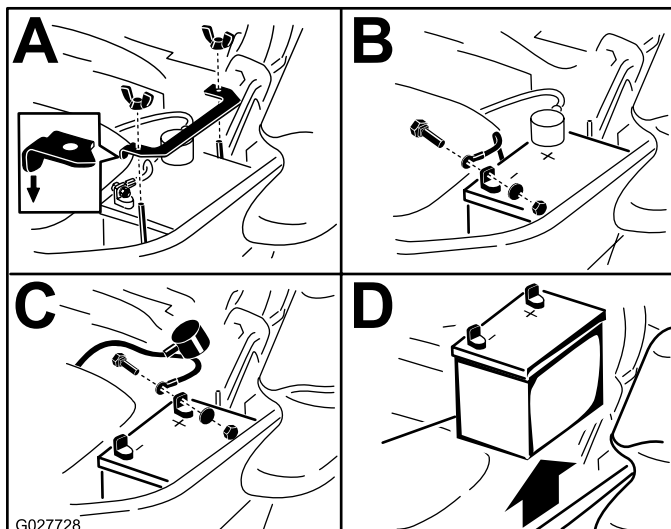

Figure 61
3. First disconnect the negative battery cable (black) from the negative (-)(black) battery terminal (Figure 61).
4. Slide the red terminal boot off the positive (red) battery terminal and remove the positive (+)(red) battery cable (Figure 61).
5. Remove the wing nut securing the battery clamp (Figure 61).
6. Remove the clamp (Figure 61).
1. Position battery in the tray with the terminal posts opposite from the hydraulic tank (Figure 61).
4. Secure the cables with 2 bolts, 2 washers, and 2 locknuts (Figure 61).
6. Install the clamp and secure it with the wing nut (Figure 61).